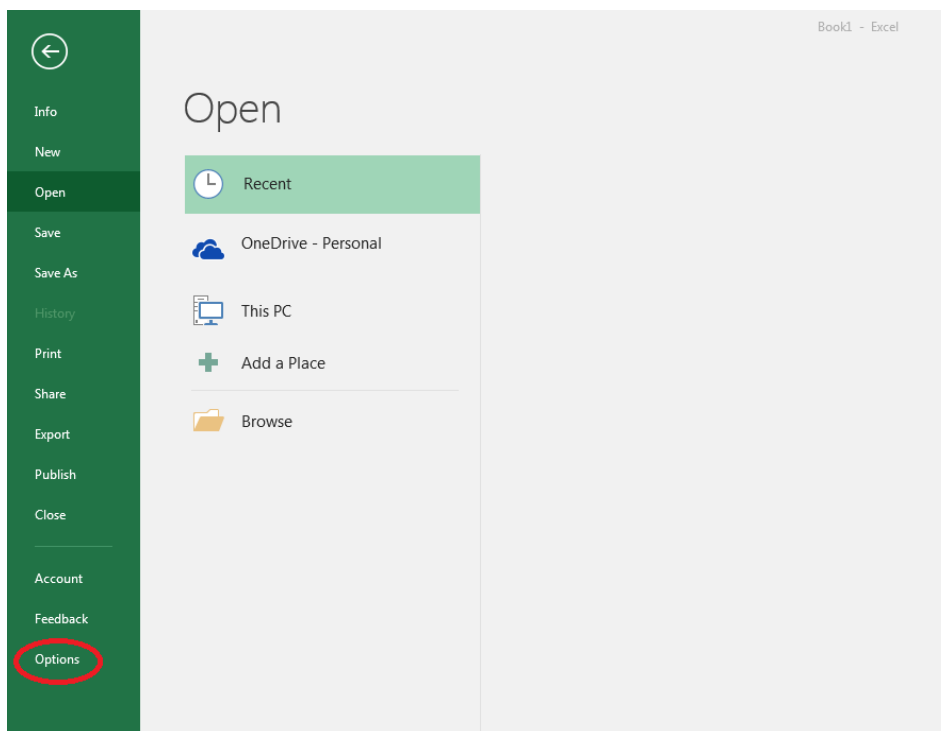

Figure 2.2: Registering FluidEXL *Graphics* as Add-In in Excel® 2016
- Click on the "Options" button in the menu which appears (see Fig. 2.2)